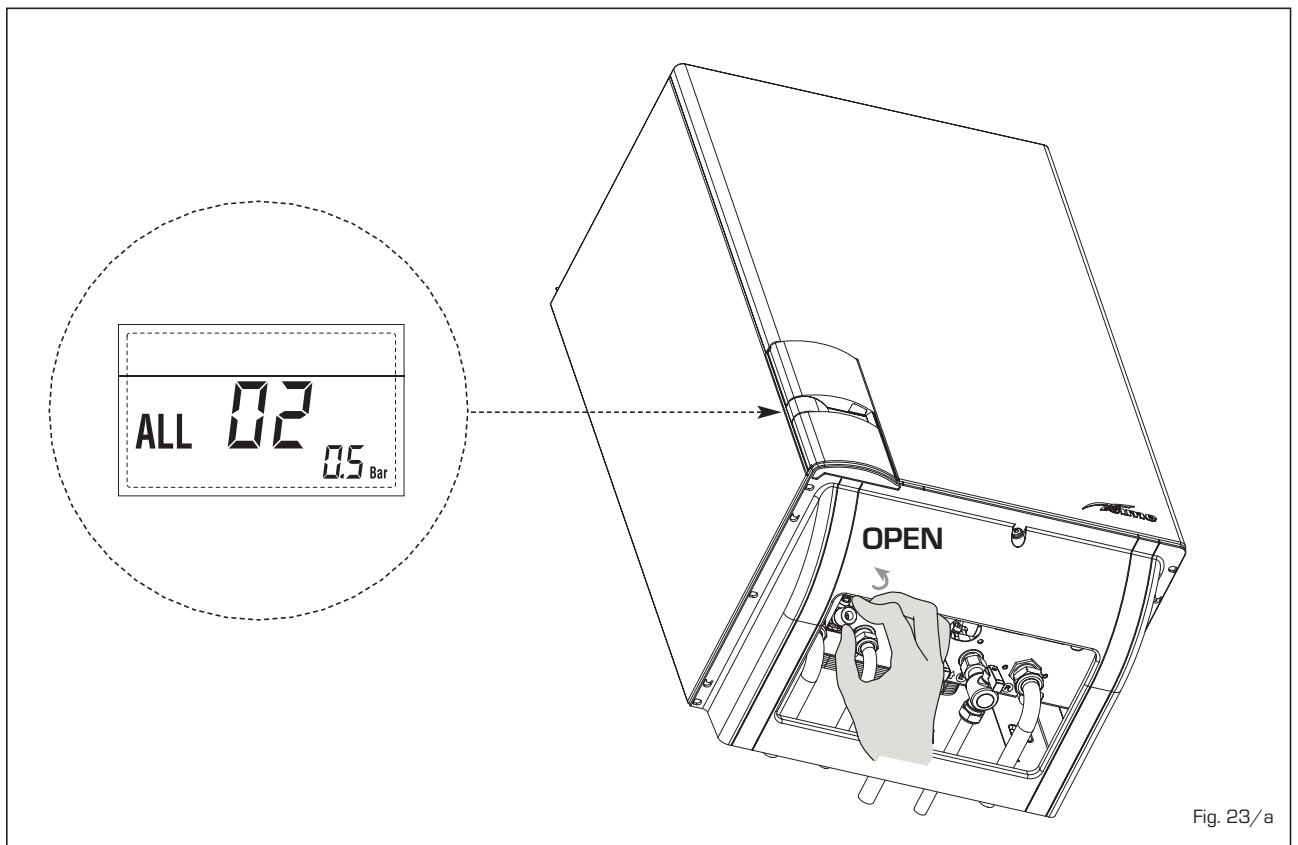

Fig. 23/a
- HIGH WATER PRESSURE ANOMALY ALARM 03 (fig. 23/b)